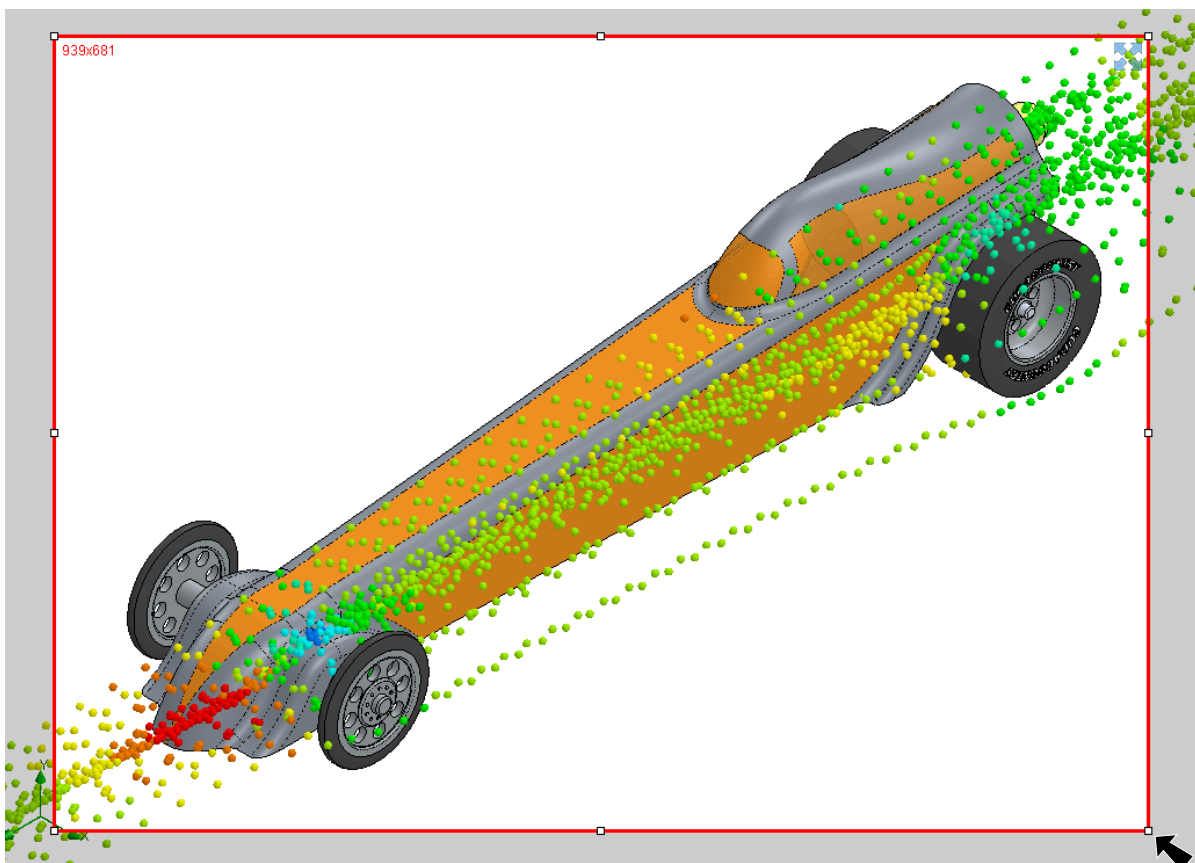

Fig. 35
Step 3. Drag the red frame capture region in the graphics area to resize/move capture region, Fig. 35.